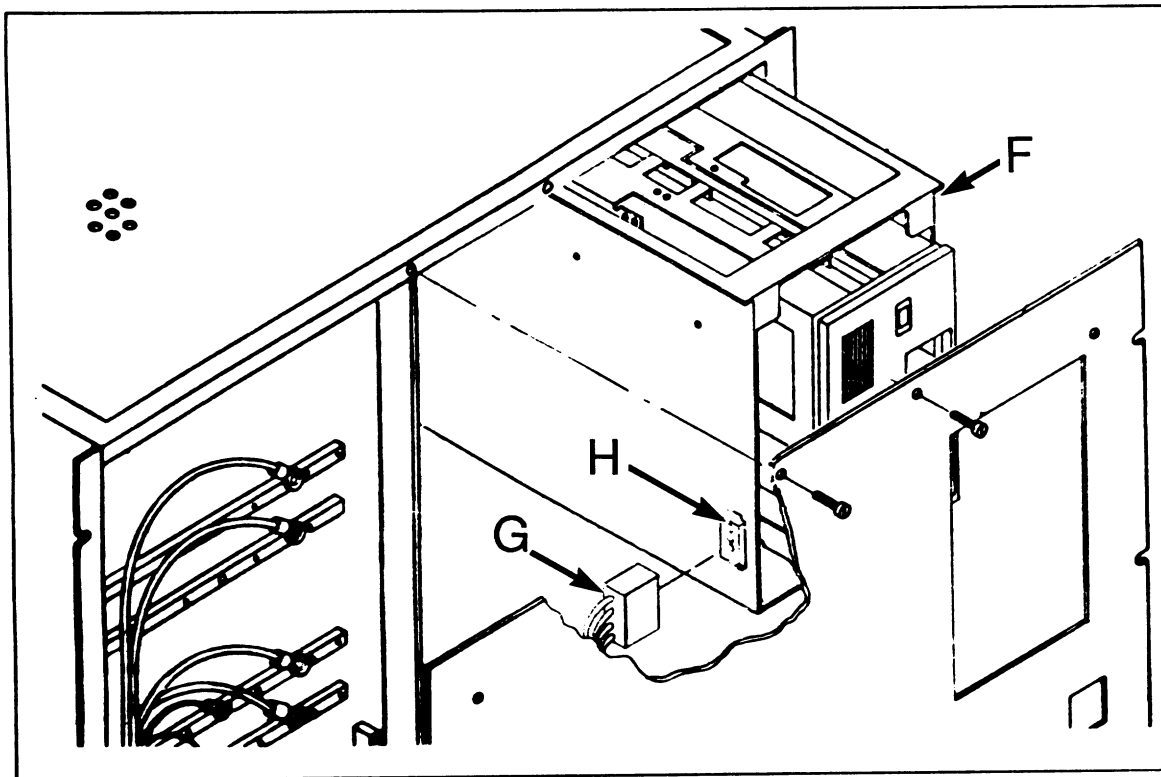

Figure 2-5 *Power Cable Connection*
9. Refer to figure 2-5. The tape drive option power cable is part of the CPU power harness and is stowed in the CPU enclosure. Locate the *Molex* type power connector (P14) G and cut the wire wraps securing the power cable. Connect power connector (P14) G to power input connector H at the front of the tape drive option tray.
6. Refer to figure 2-5. Disconnect power cable connector G from tape drive power input connector H.